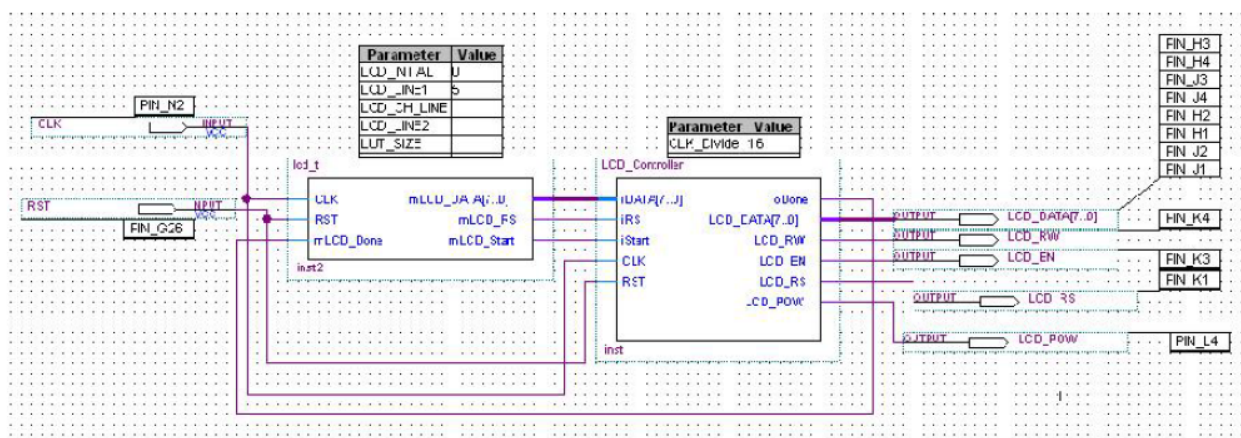

Figure 4.2: Schematic diagram for the LCD interface: lcd\_t (lookup-table sequencer) feeding LCD\_Controller (bus-timing controller).
5. Draw the schematic in Figure 4.2, connecting lcd\_t's outputs to LCD\_Controller's inputs, and LCD\_Controller's outputs to the LCD interface pins.